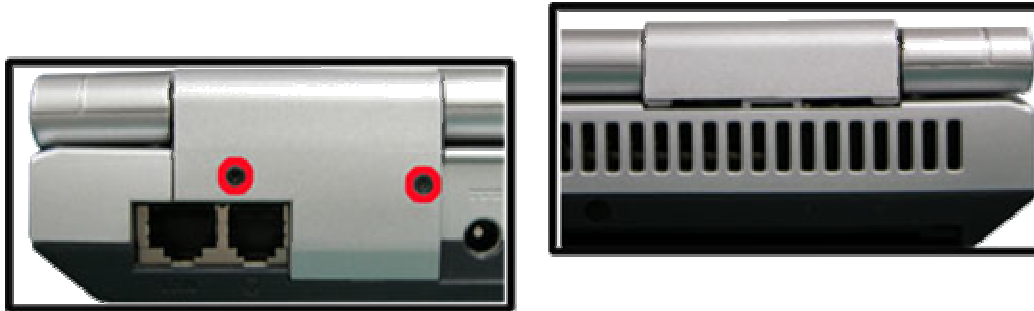

Fig. 11 Removing the hinge cover
1. Remove the hinge cover as shown in Fig. 11